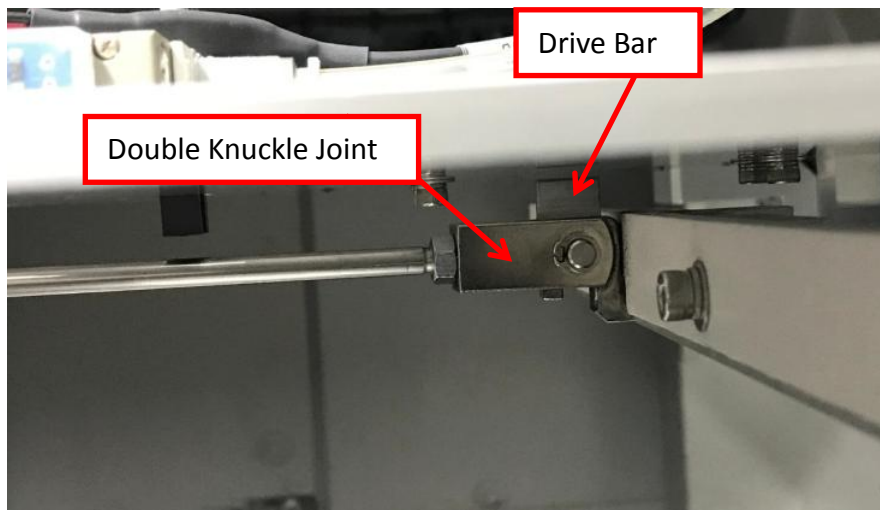

Figure 5 Inner Barrier Cylinder Removal
5. Gently release Double Knuckle Joint from Drive Bar's hook as below Figure 5.